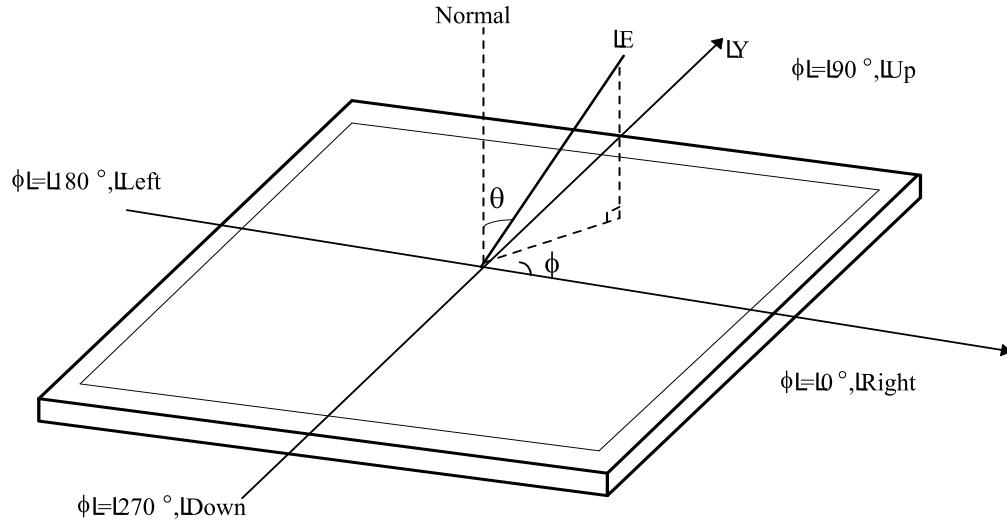

FIG.14|Viewing|Angle
6. Viewing angle is the angle at which the contrast ratio is greater than 10. The angles are determined for the horizontal or x-axis and the vertical or y-axis with respect to the z-axis which is normal to the LCD module surface. For more information, see FIG.14.